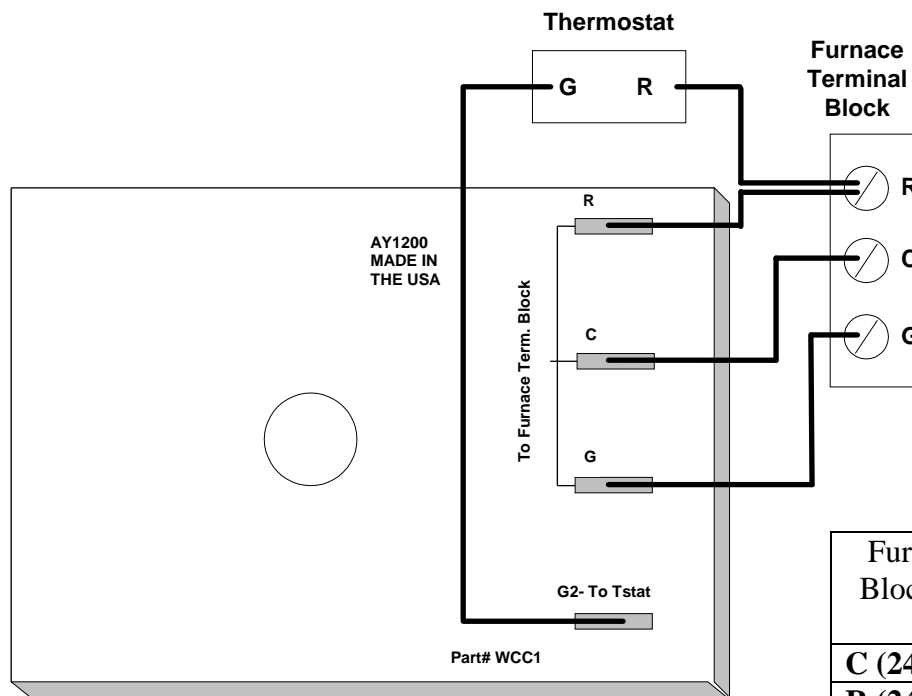

Figure 3. WCC1 Wiring
8. Connect the remaining three wires from the WCC1 (R, C, and G) to the furnace terminal block as indicated in Table 1 and Figure 3.